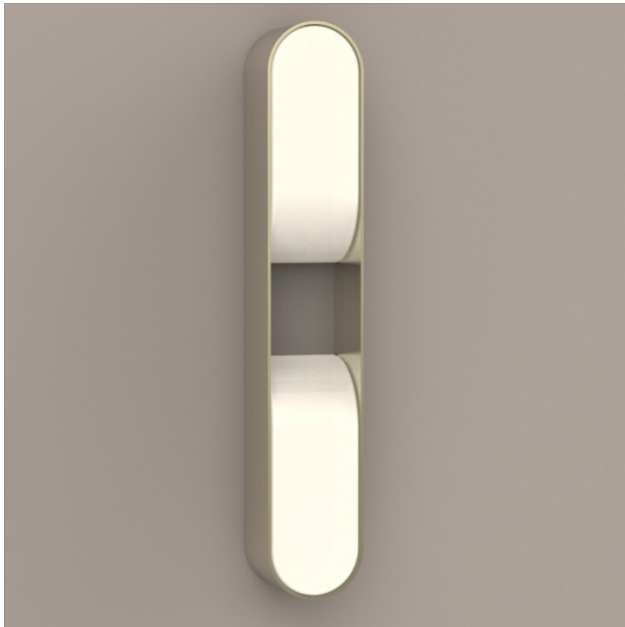

Figure 8
- Push fixture firmly against wall. Do not force. (Figure 8)